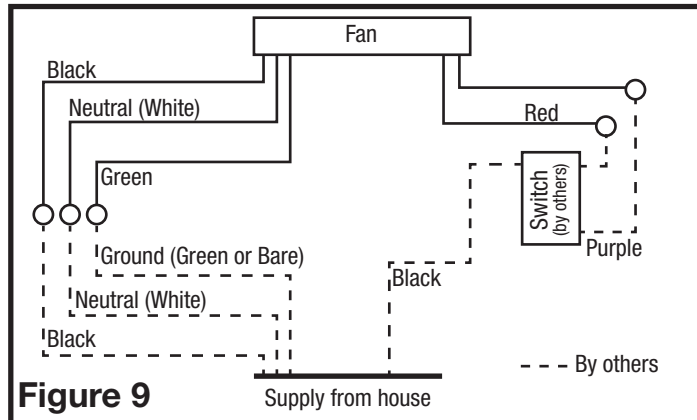

Figure 9
3. For two speed fans wired for continuous ventilation, connect the White wire of the fan to the White (Neutral) wire from the power source. Connect the ground wire from the house to the green wire from the fan housing. Connect the Black wire of the fan to the Black wire (Hot) from the power source. The fan will operate on low speed continuously and boost to high speed when motion is detected. Using a properly grounded standard switch (not included) connect the black wire from the supply to the switch. Connect the red wire (light) from the fan housing to the other side of the top switch and connect the purple wire (night light) from the fan housing to the other side of the bottom switch. A manual override switch (not included) can be used to provide a manual fan Off function (Figure 9).